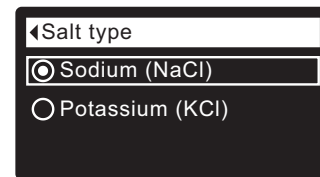

FIG. 94
5. Press the SELECT (O) button to display the Salt type menu (See Figure 94).
6. If the desired salt type already has a black dot next to it (See Figure 94), go to Step 7. Otherwise, press the conditioner's DOWN (▼) or UP (▲) buttons to scroll to the other salt type, then press SELECT (O) to choose it.
7. Press the SELECT (O) button. The display will go back to the Salt settings menu.